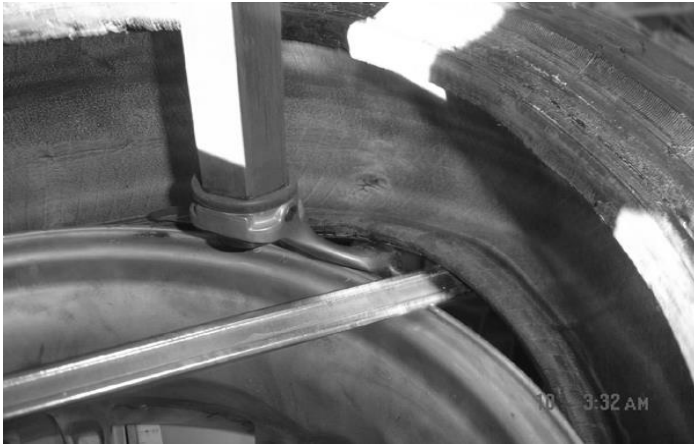

FIG65
6.4.6 Turn over the crowbar to let the down lip rotate upwards until on the demount head (fig65) . Rotate the turntable clockwise until the tire is completely taken out of the rim.